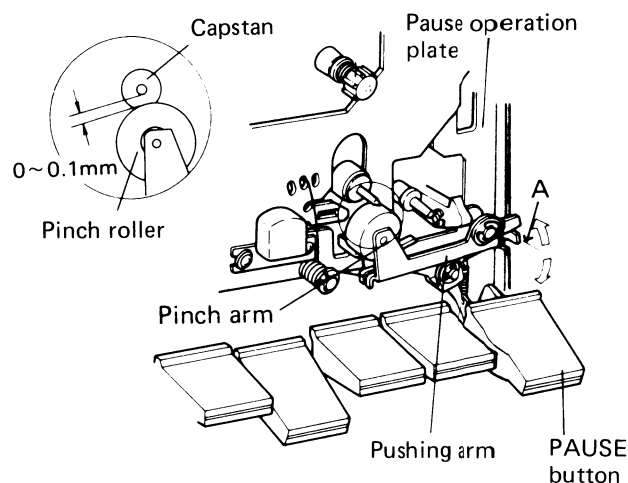

Fig. 38
9.5 PAUSE TIMING ADJUSTMENT (Fig. 38)
Adjust the timing by bending the part indicated by A in Fig. 38 in the direction of movement of the pause operation plate.